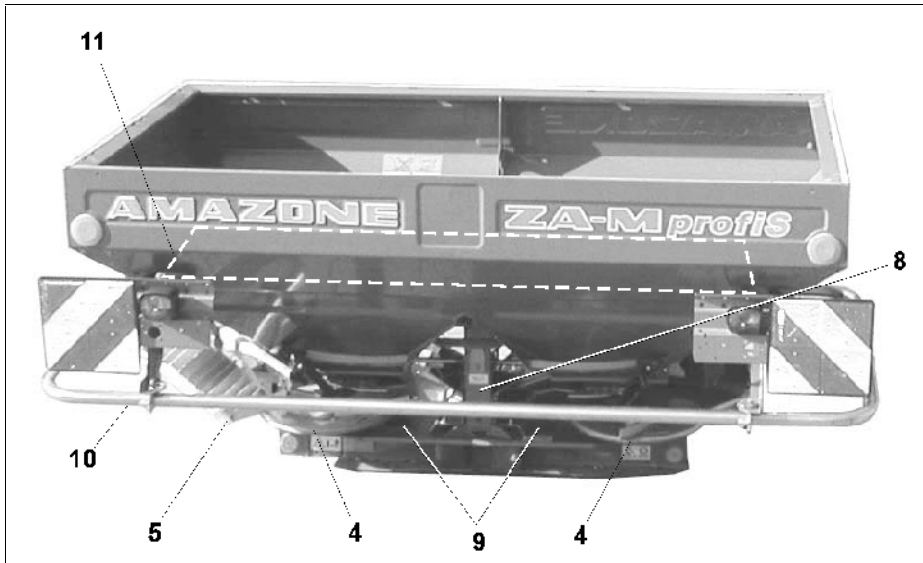

Fig. 2
- Omnia-Set spreading discs (Fig. 2/4)
- Boundary spreading device Limiter (Fig. 2/5)
- Chain guard of agitator shaft drive (Fig. 2/8)
- Guard for shaft between centre and angular gearbox (Fig. 2/9)
- Guard tube for operation with the spreading discs OM 24-36 (Fig. 2/10)
- Guard screen in hopper (Fig. 2/11)